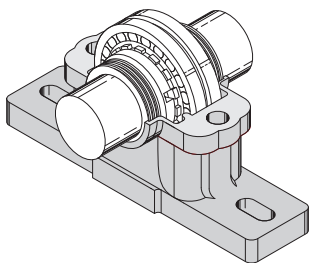

Fig. 20-12 Lower half of housing.
8. Remove any paint and burrs from the mating surface at the split, and thoroughly clean the pillow block housing. The vertical hole at the bottom of each enclosure groove must be free of foreign matter. Place the shaft with the bearings into the lower half of the housing while carefully guiding the seal rings on the shaft into the seal grooves. Bolt the fixed bearing into place (Fig. 20-12).